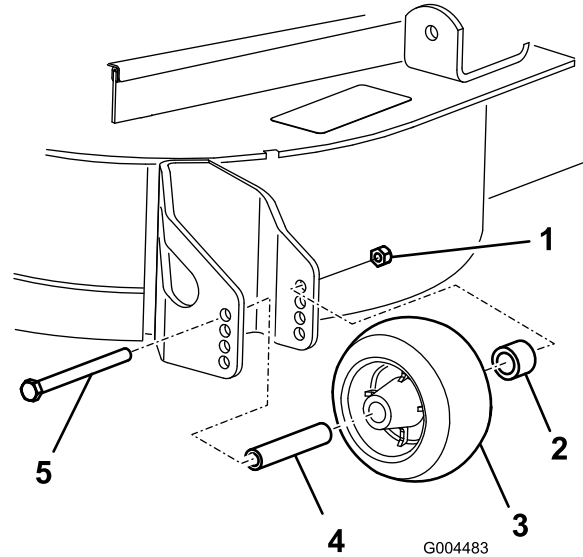

Figure 24
3. After adjusting the height-of-cut, adjust the rollers by removing the flange nut, bushing, spacer, and bolt (Figure 24).
5. Install the flange nut, bushing, spacer, and bolt. Torque to 54-61 N-m (40-45 ft-lb) (Figure 24).